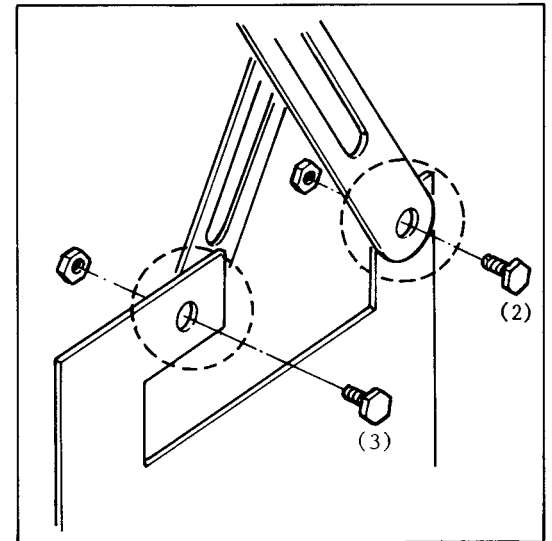

Fig. 5
- (2) Mount the Camera Holder Arm (B) to the Camera Holder (D) by screws (2) and (3) as shown in Fig. 5.
As in Fig. 5, hold the tape vertically with fingers and thumb to insert or remove the tape. (Be sure to eliminate slack before inserting the tape.)